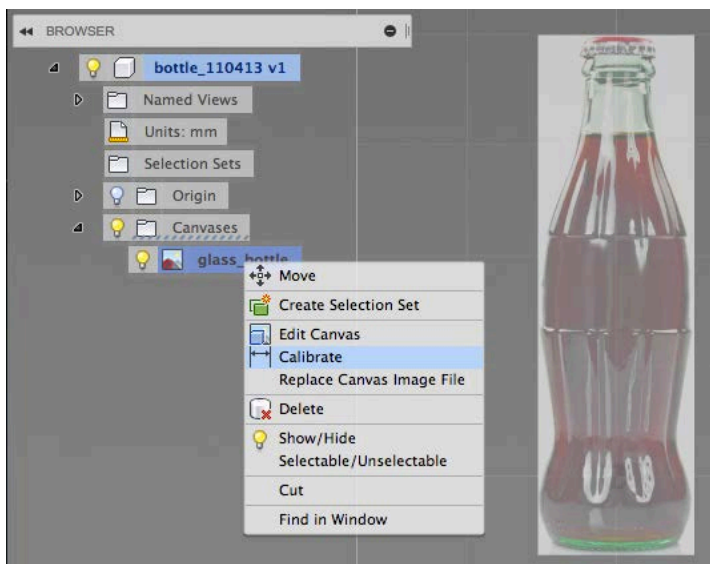

Fig. B01
24. Under the tree structure (dropdown list on left side) expand “canvases” folder, right-click on “glass\_bottle” and select “calibrate” (Fig. B01).